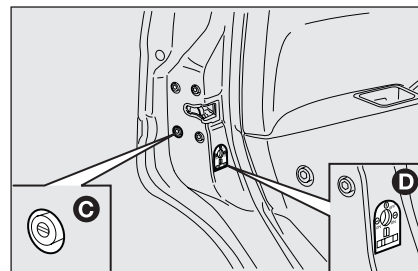

fig. 17
- operation of the door safety device **C-fig. 17** from the outside for use the electric system is not working (e.g. flat battery);
- operation of the child lock **D-fig. 17** on rear doors.